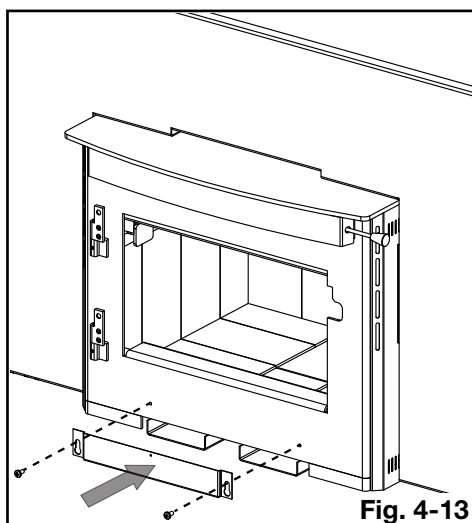

**Fig. 4-11**
- Remove the two screws securing the cover to the blower assembly (**Fig. 4-11**). Set the screws and cover aside.